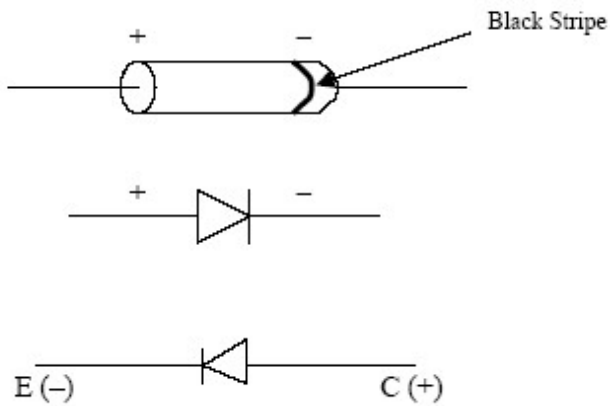

Fig. 3.2 Diode Configurations
1. Obtain the Zener diodes 1N5234, 1N5237, and 1N5239. The positive and negative terminals of each diode are as shown in Fig. 3.2 below.